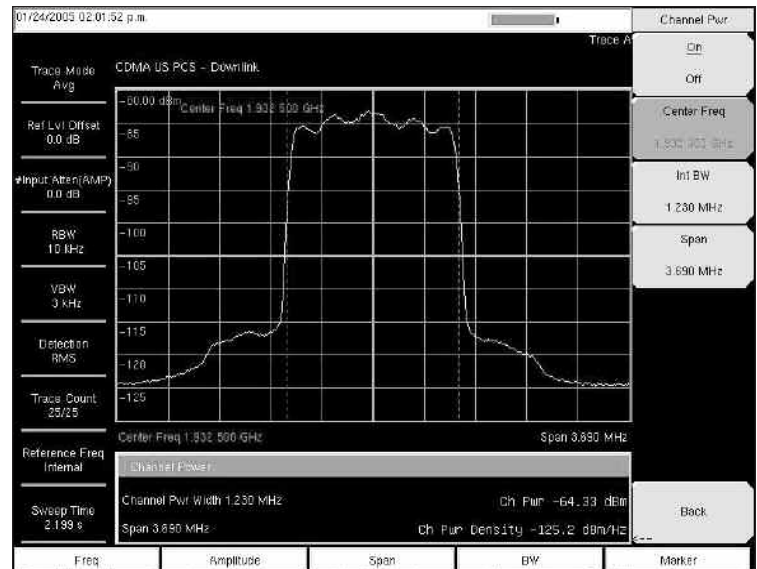

Figure 4. Channel Power Measurement
**Channel Power** – measures the total power contained within its defined bandwidth. This mode integrates the power contained within the defined bandwidth. As with occupied bandwidth, the frequency parameters may be either entered manually or automatically selected using the signal standard and channel number. See Figure 4 for an example of a channel power measurement.